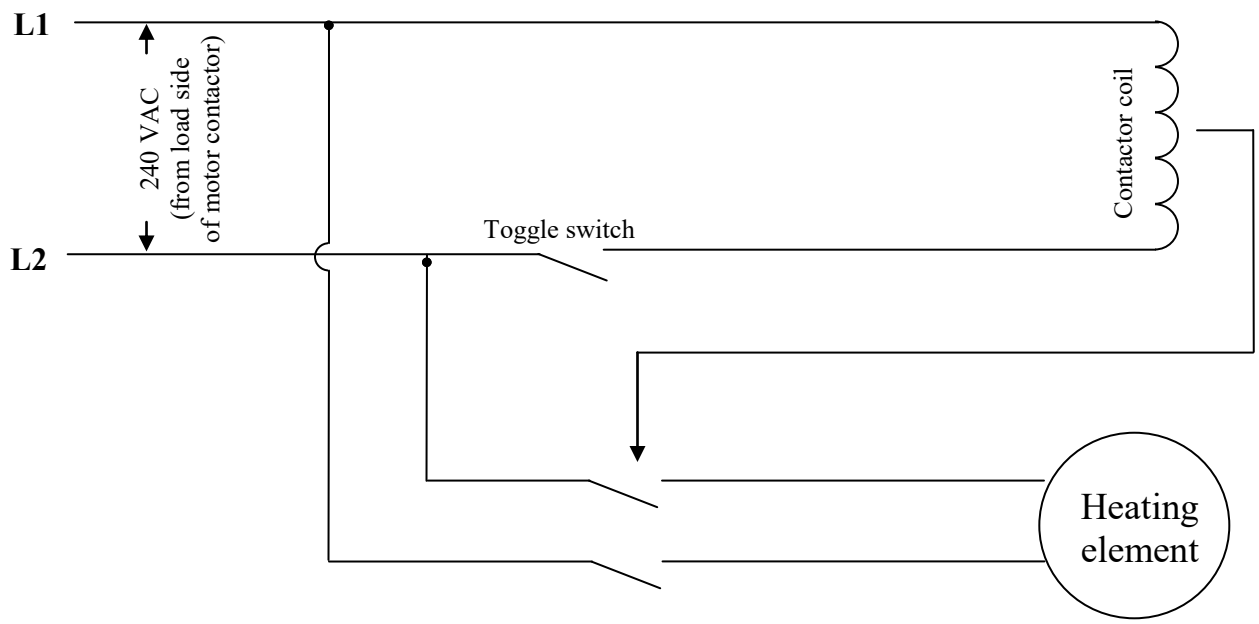

FIG 3
8. Connect the Aeration Controller to the existing fan control wiring as per Fig 3.